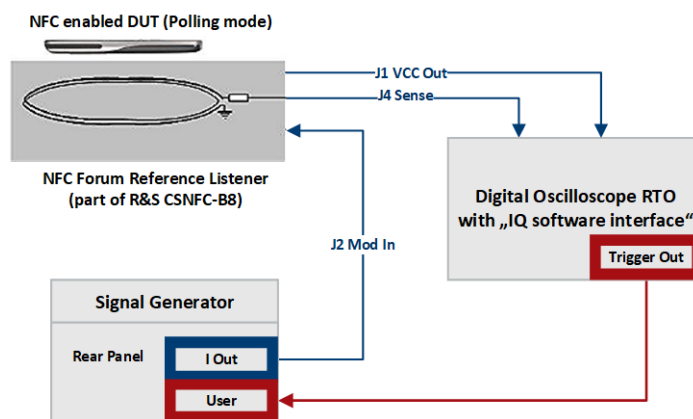

Figure 6-1: Test setup for an NFC mobile phone in polling mode (simplified schematic).
1. Connect the I Out connector of the R&S SMM100A to the XJ2 (MOD IN) connector of the NFC Forum reference listener, see Figure 6-1.